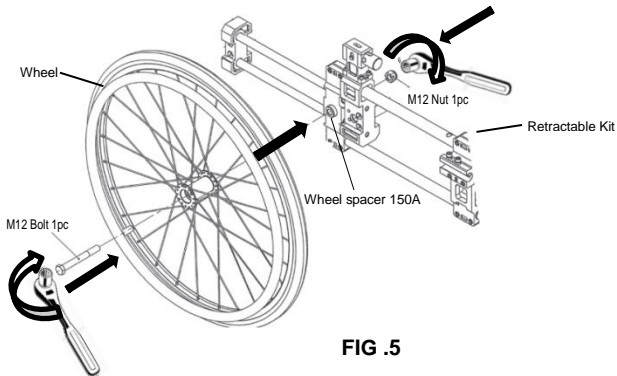

FIG .5
5. Assemble the wheel to Retractable Kit with the Wheel Spacer 150A (Accessories Pack 2) in between before fasten M12 bolt & nut (Accessories Pack 3). (See fig. 5)